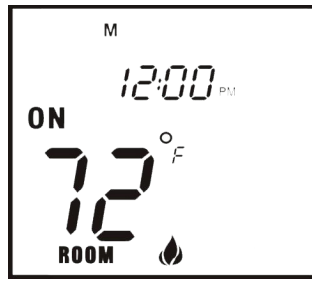

Fig. 9 Manual ON
- Step 1:** Press the MODE button one time to manually turn **ON** the appliance (Fig. 9).